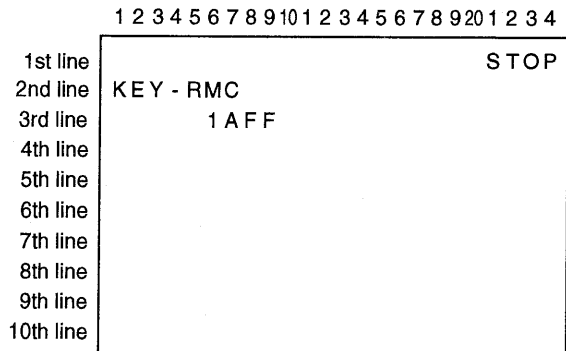

Fig. 7-7. Key and remote control data
The one byte (2 digits in hexadecimal notation) on the left of the 3rd line in Figure 7-7 is the SIRCS code of the key input data of the main unit, and that on the right is the SIRCS code of the input data by the remote control unit. When no key is pressed or there is no input, “FF.” appears. When two keys are pressed almost at the same time, the SIRCS code of the input data by the first pressed key will appear.
An example in Figure 7-7 shows that the playback key (1A in hexadecimal notation) on the main unit is pressed but there is no input (FF in hexadecimal notation) from the remote control unit.